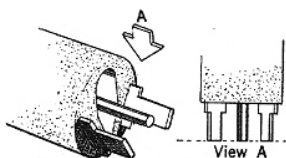

Figure 18
Sluggish movement of the sensing rod can be caused by accumulation of residue or by corrosion at the point where sensing rod passes through the pivot washer. Should this occur, release the claw set screw and from the inside of the kiln move the sensing rod in and out while rotating it between the fingers. Realign the end of the sensing rod with the end of the cone supports as shown in Figure 18, page 12, and retighten set screw in claw. Free and easy movement of the sensing rod should be checked before each firing as shown in Figure 6, page 3.
4. As shown in Figure 18, the rear end of the sensing rod should be even with the ends of the cone supports. Set screw in claw may be loosened if adjustment is necessary. Be sure set screw is firmly retightened.